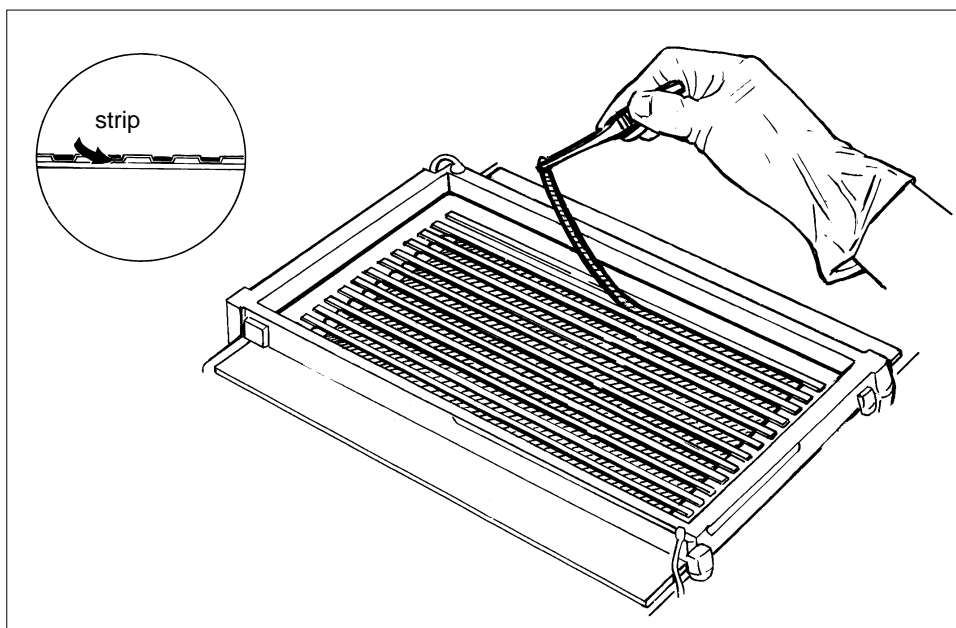

Fig. 13.
- Transfer the strips to adjacent grooves of the aligner in the tray (Fig. 13).